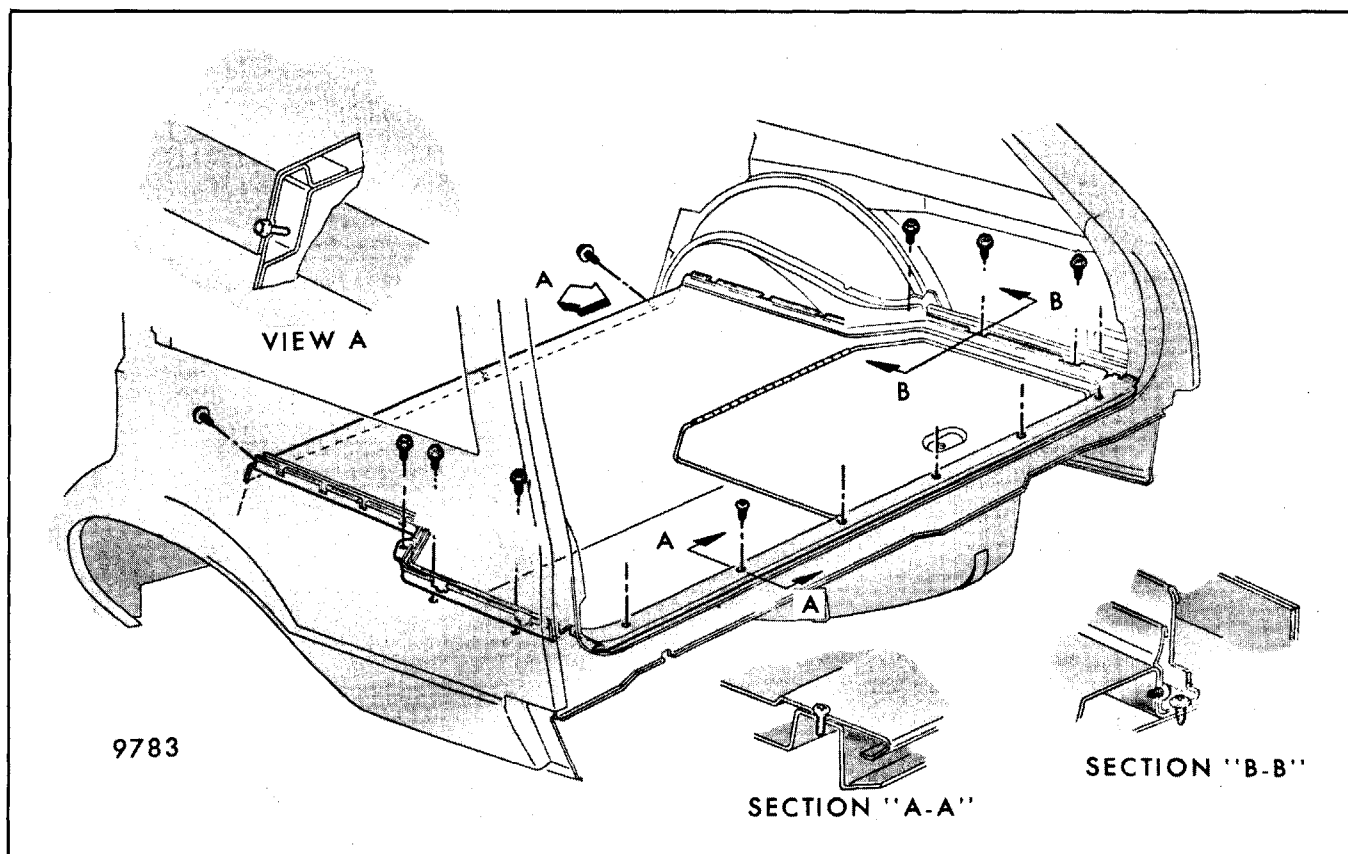

Fig. 9-110 - Luggage Compartment Panel Assembly Installation - A Styles
1. Figures 9-110 and 9-111 are typical of all A style station wagons.
Removal and Installation (Fig. 9-110)